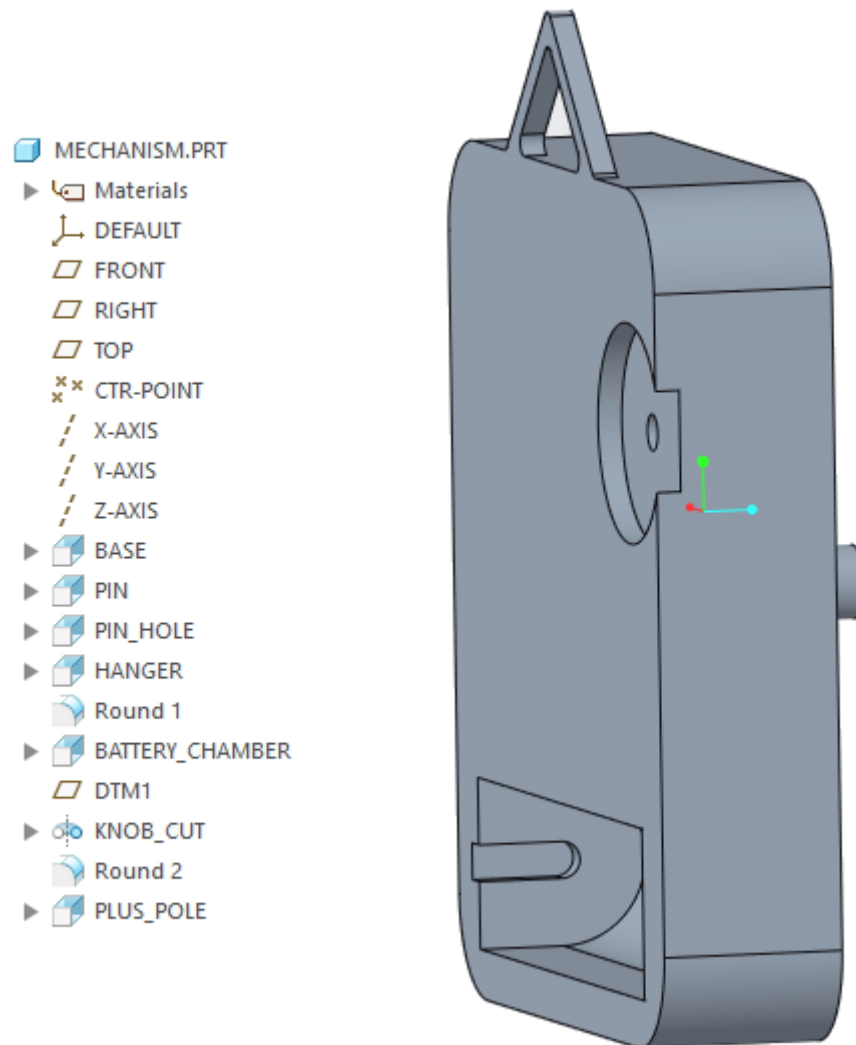
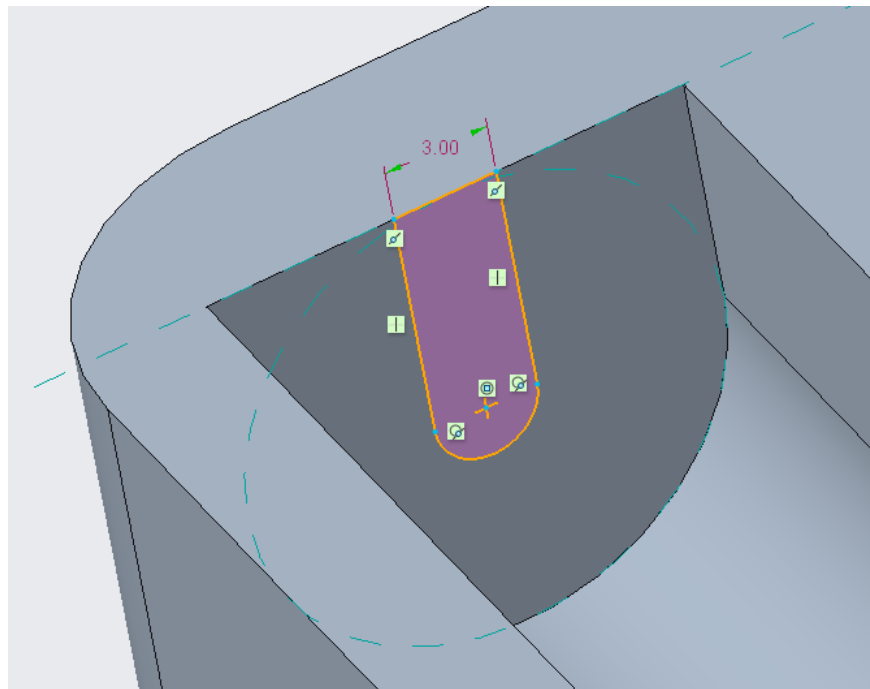
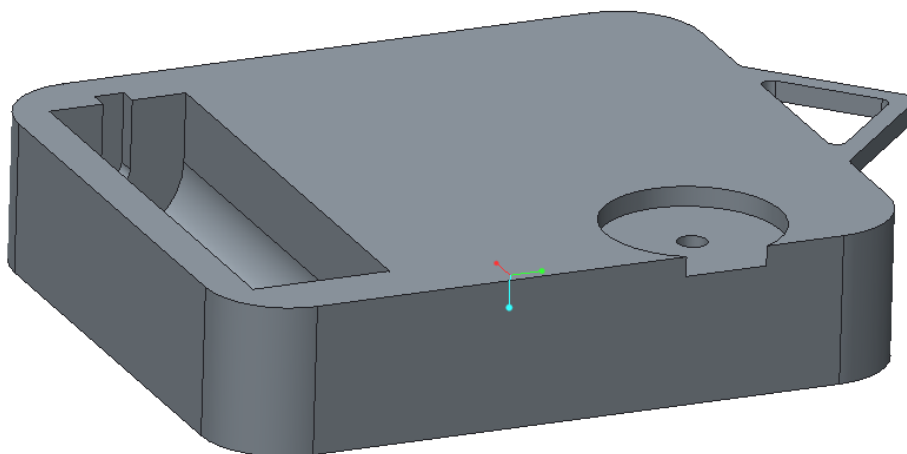

Figure 1: The clock mechanism part and its model tree.
Figure 23: Sketch for the plus pole.
Figure 24: Ready model.
Try on your own and create **a cut** so that plus pole of the battery fits in (Figure 23). There should be only two independent dimensions, **diameter of the plus pole** (3) and **depth of the extrusion** (2). Everything else should be dependent on the existing geometry, using references and suitable sketcher constraints. When ready, your model should look like in Figure 1 and Figure 24. Remember to save your model!